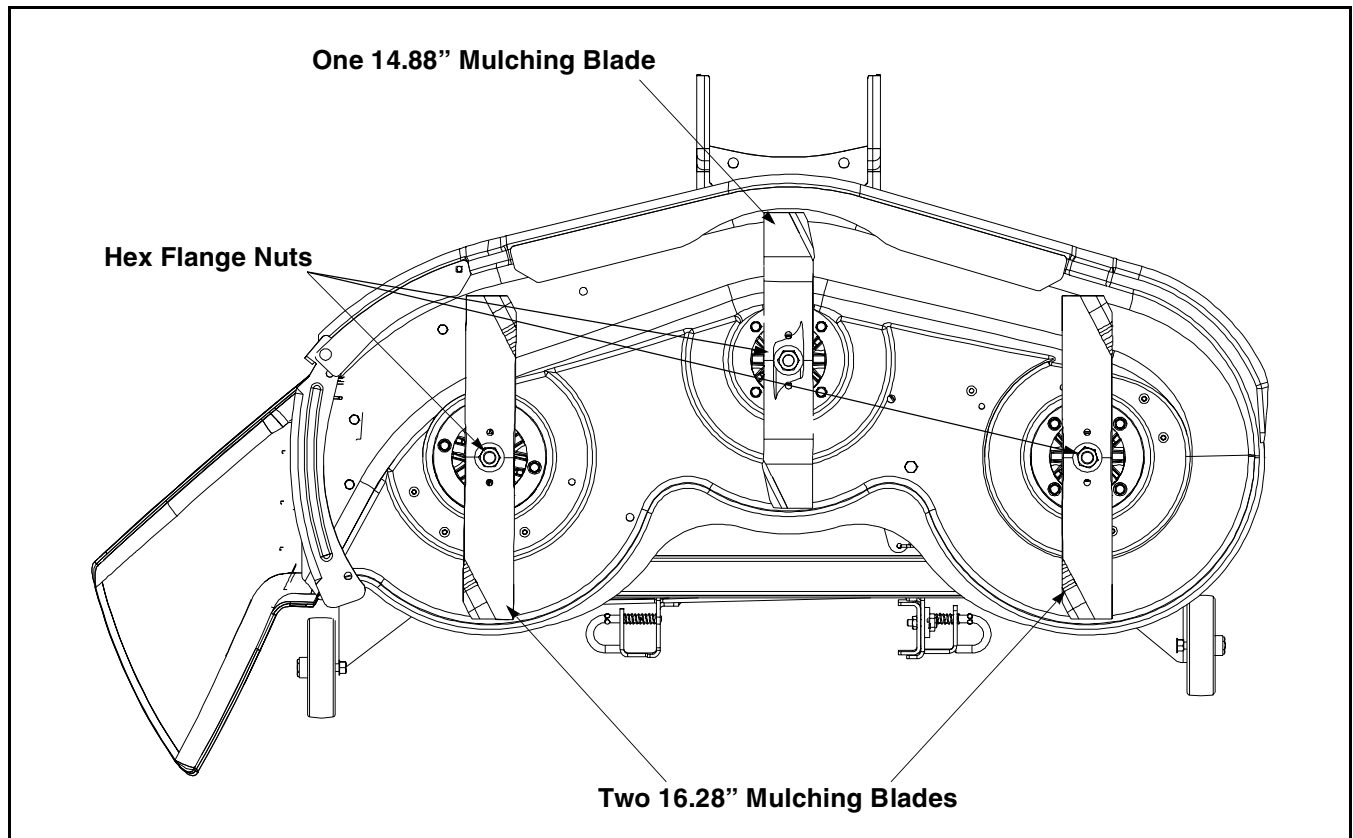

Figure 1
2. Place a block of wood between the deck housing baffle and the cutting blade to act as a stabilizer, then use a 15/16" wrench to remove the hex flange nut that secures each blade to its spindle assembly. Refer to Figure 1. Your tractor's deck style may differ slightly from the one pictured in Figure 1.
3. Replace the blades with the mulching blades included in the kit. Be sure to install each blade with the side marked "Bottom" (or with a part number stamped in it) facing the ground when the mower is in the operating position. Be certain to mount the **SHORT BLADE** to the **CENTER SPINDLE**. Refer to Figure 1.